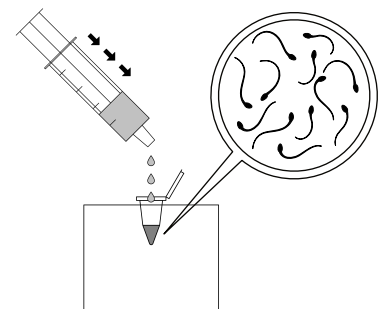

Figure 6. Transfer the collected material for later use.
9. Transfer the collected material to a capped tube. Store for later use according to lab practice (Figure 6).